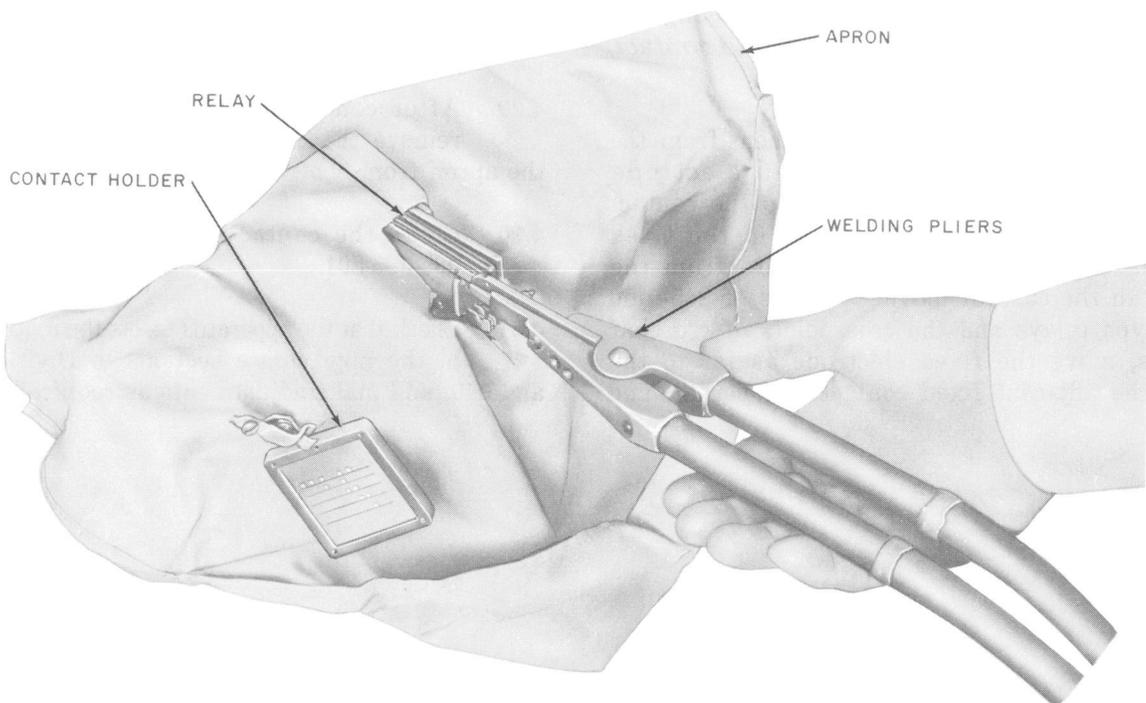

Fig. 10—Welding Pliers in Position for Welding Contact
4.24 After positioning the pliers, as covered in 4.22 or 4.23, shift them slightly so the end of the spring is firmly seated in the notch in the guide. Then, release the pressure on the plier handles, thus holding the contact firmly in position on the spring. (See Fig. 10 and 11.)
- 4.25** Hold the plier handles in a horizontal position with the center line of the pliers in line with the spring as shown in Fig. 10 and, with all hand pressure removed from the handles, depress and release the control button. Holding the control button operated has no effect since the time control relay is held locked until the control button is released. Do not operate the control button more than once for any one welding operation.